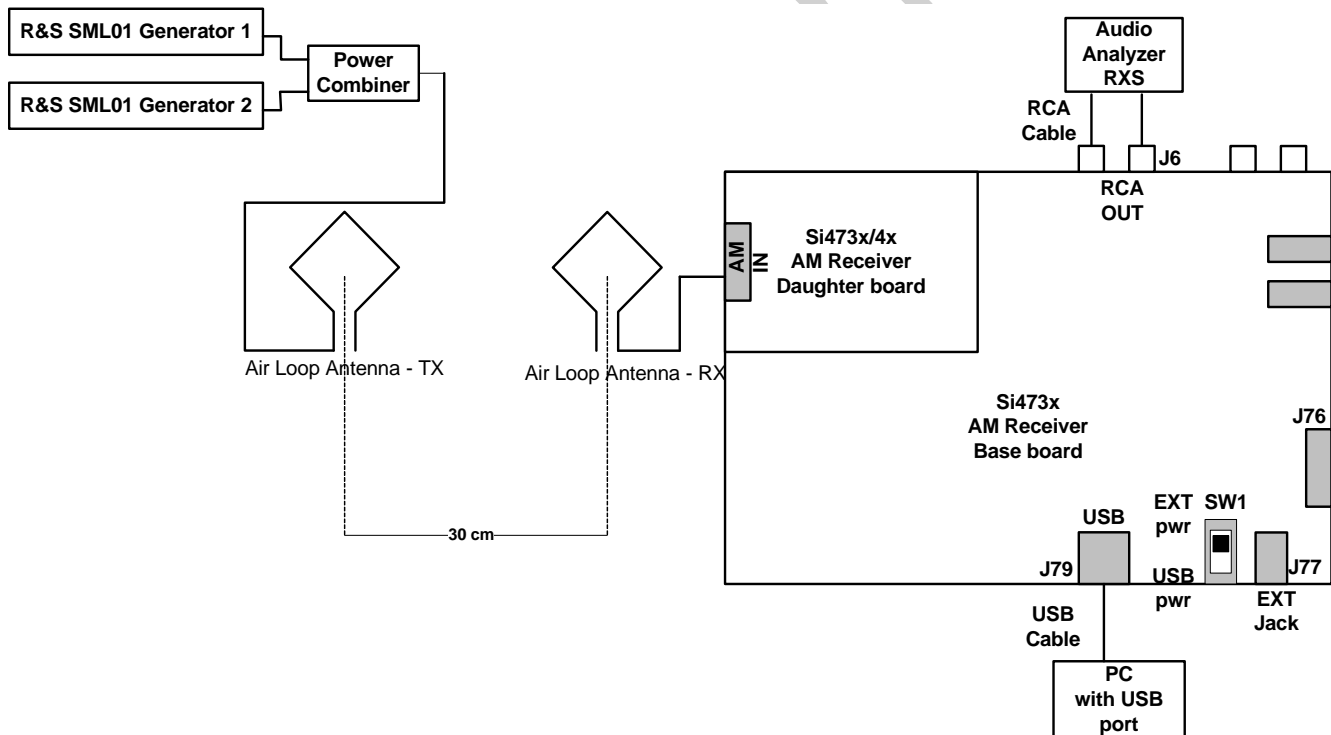

Figure 9. Large Signal Voltage Handling Test Setup
1. Connect test equipment as shown in Figure 9.